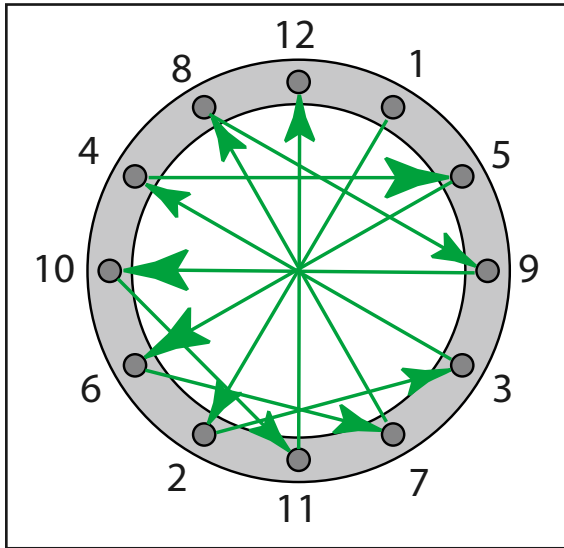

Figure 4. Tightening pattern of 7/8-inch nuts for heating coil assembly flange.
13. Reinstall heating coil assembly (Fig. 2), using new gasket and old 7/8-inch studs and nuts. Lubricate stud threads and tighten nuts to a torque of 400 ft-lbs according to Figures 4 and 5. **Do not use an impact wrench.**